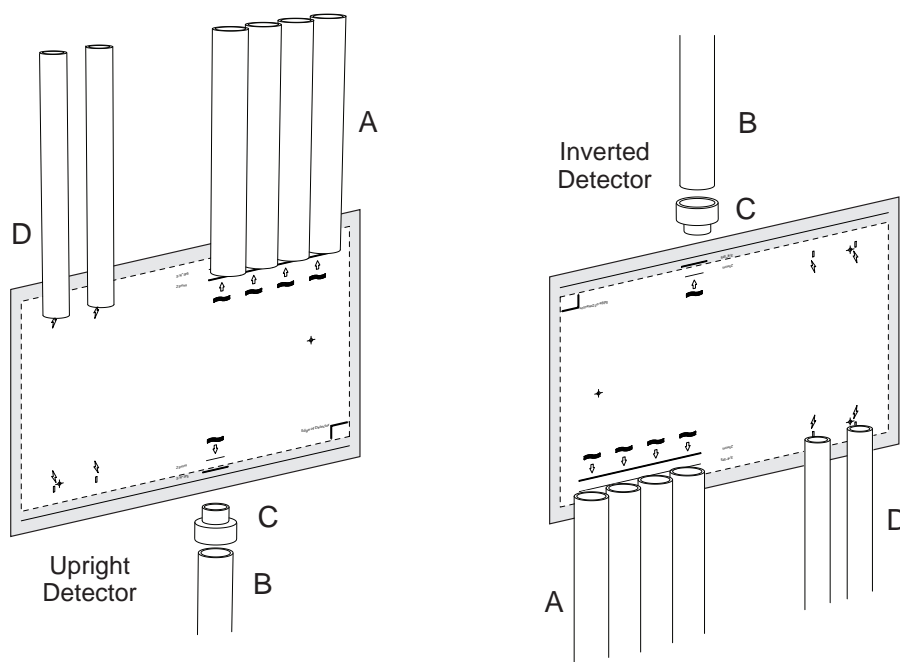

Figure 4-25: Position conduit and pipes
- Position the inlet pipes (A) on the marked center lines (Figure 4-25).
- Position the exhaust pipe (if used) (B) on the marked center line:
- For imperial pipes, fit the pipe adaptor (C) and cut the pipe to the outer depth line marked on the mounting template.
- Position electrical conduit (D) on the marked center lines.